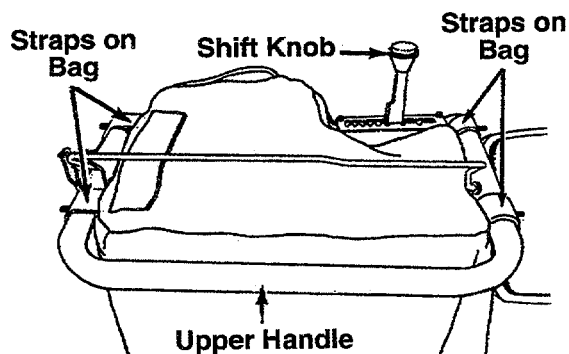

FIGURE 7.
**NOTE:** To determine right and left hand sides of your chipper-vacuum, stand behind and face the unit (Refer to figure 7).
- Place the four straps on the top of the bag over upper handle, hooking them on studs. See figure 7.